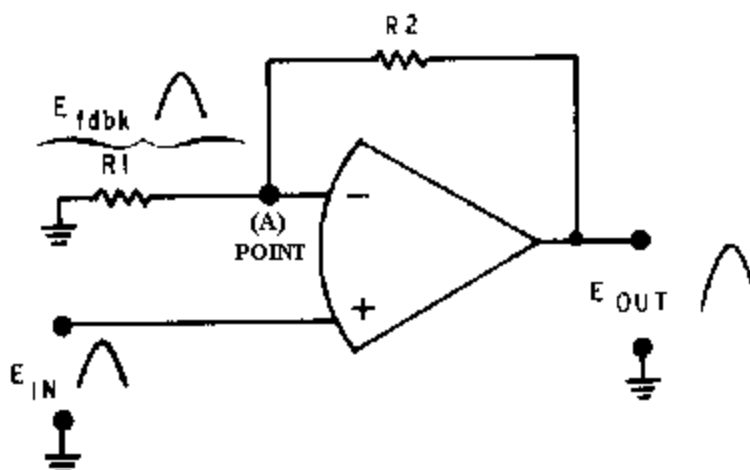

Figure 3-16.—Noninverting configuration.
Figure 3-16 shows a noninverting configuration using an operational amplifier. The input signal (E_{in}) is applied directly to the noninverting (+) input of the operational amplifier. Feedback is provided by
- Q-26. *In a circuit such as that shown in figure 3-16, if R_1 has a value of 50 ohms and R_2 has a value of 250 ohms and the input signal has a value of +10 millivolts, what is the value of the output signal?*